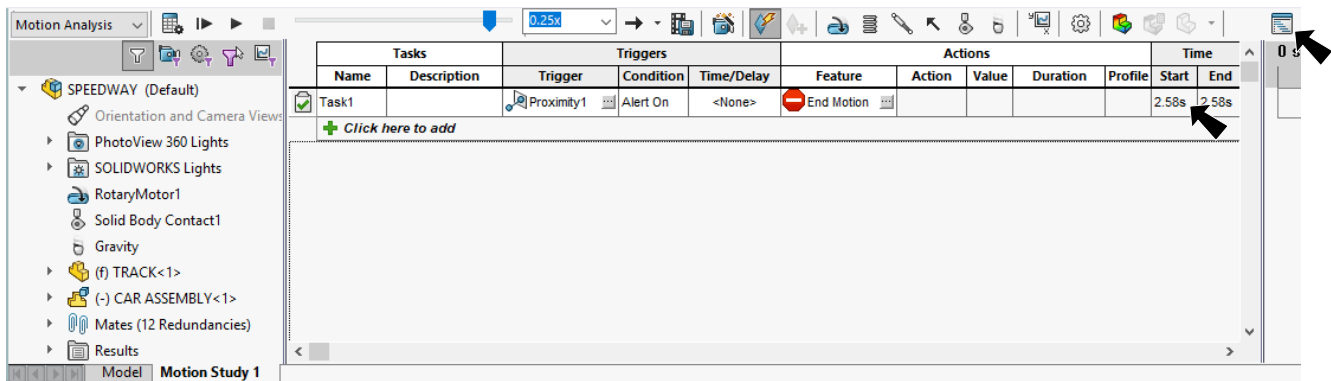

Fig. 22
Step 7. Under Time, what is your time, **Fig. 22**?
Step 8. Click **Timeline View**  on the far right end of Motion Manager toolbar to switch to Timeline View, **Fig. 22**.